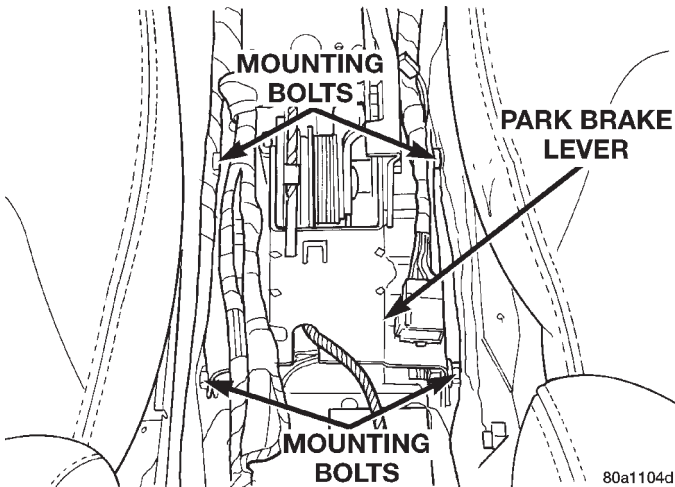

Fig. 129 Park Brake Lever Attaching Bolts
(13) Loosen **but do not remove** the 4 bolts attaching the park brake lever to the console bracket (Fig. 129).
(1) Install the park brake lever on the console bracket using the following procedure. First slide the front of the park brake lever bracket on the 2 forward mounting bolts, then rotate the rear of the bracket downward onto the 2 rear mounting bolts. Tighten the 4 attaching bolts (Fig. 129) to a torque of 24 N·m (20 ft. lbs.).